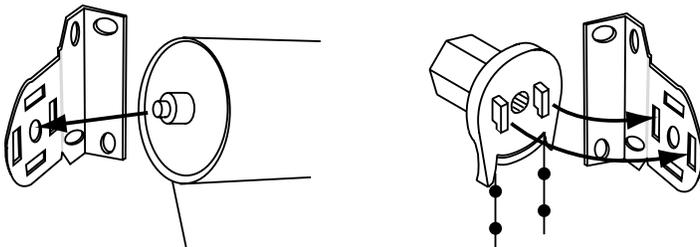

Figure 2
- ② Place spring-loaded pin on idler end into center hole in bracket (see Fig. 2).
- ③ Supporting the idler bracket with one hand, carefully push roller/fabric assembly toward the idler bracket, depressing the spring-loaded pin, and slip clutch tabs into slots in bracket (see Fig. 2).